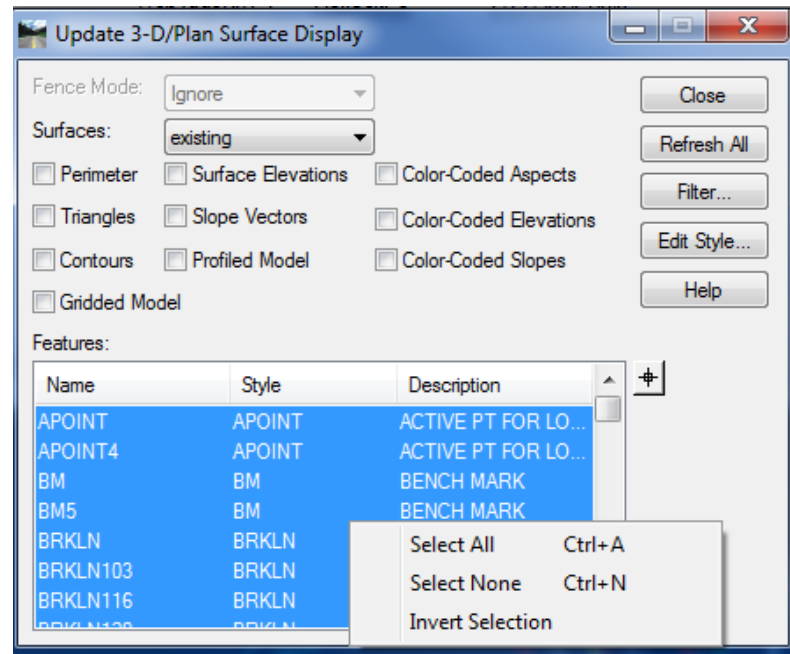

Figure 2-9 InRoads Update 3-D/Plan Surface Display
- P. On the InRoads Main Menu Bar click on **Surface > Update 3-D/Plan Display** (Figure 2-9). This display dialog box allows users to **display on** or **display off** the Perimeter, Triangles, Contours and Features in your file. Note: There are other functions within this dialog box that will not be covered in this lab.